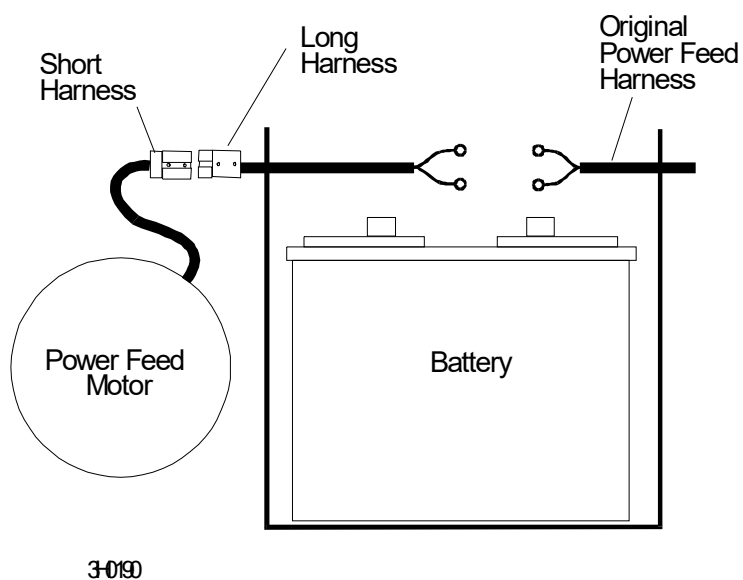

FIG. 1-8
See Figure 1-8.
3. Connect the red harness wire to motor terminal "B". Connect the black harness wire to motor terminal "A". Replace the terminal nuts being sure the wires are secured in a position so that the ring terminals will not contact the motor cover. Replace the motor cover and screws so that the harness is positioned at the top left of the motor. **See Figure 1-8.**